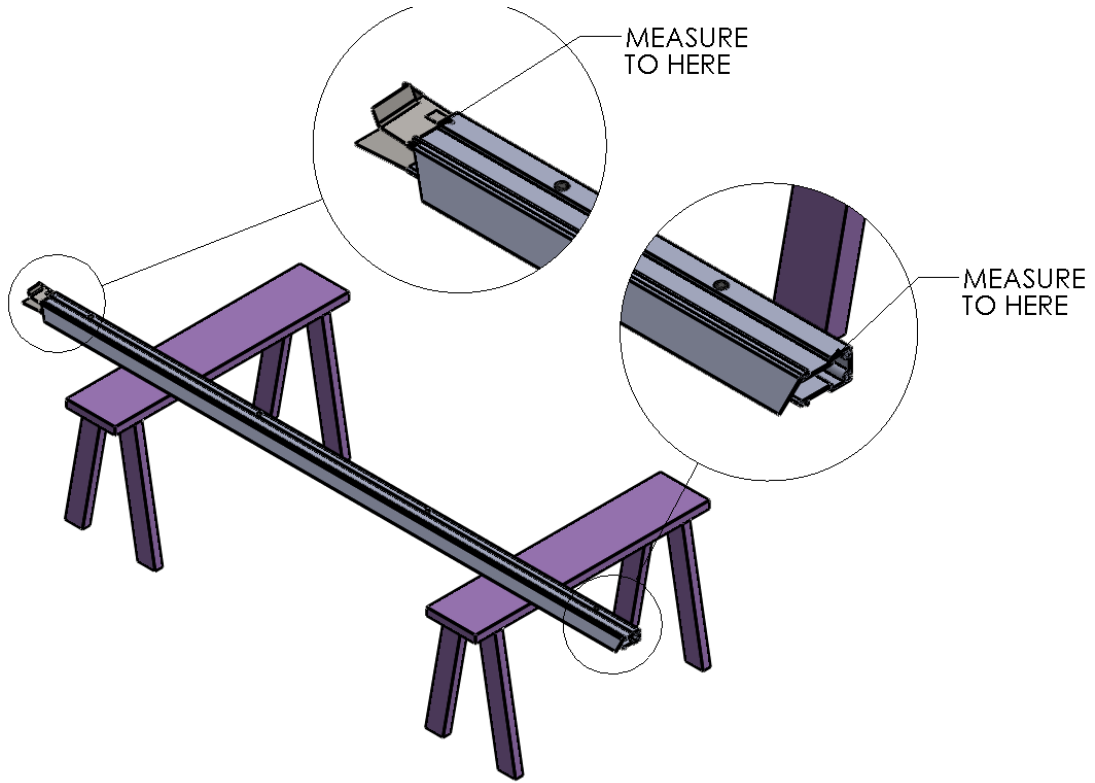
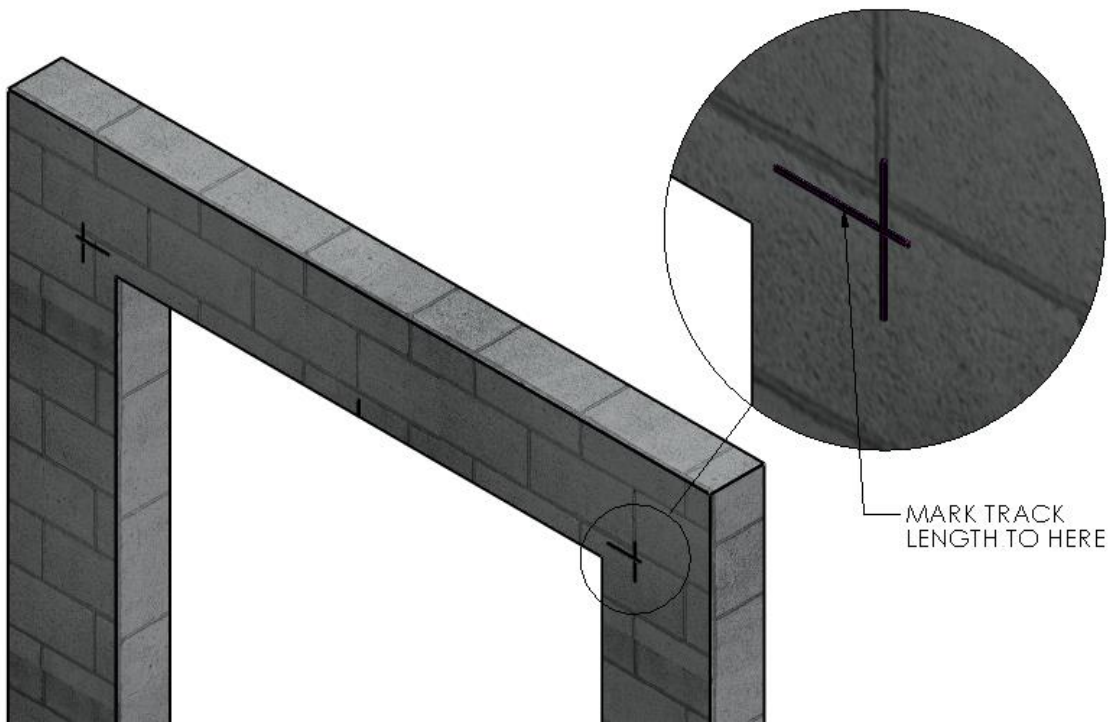

Figure 4 MEASURE TRACK HEIGHT
Figure 5 MARK TRACK HEIGHT
5. Set one of the Vertical Track Assemblies on your work surface and measure the length of the vinyl Track only. ADD 7-1/4" to this number and take note. This is the height dimension needed to mark the location of the top edge of the Header Mounting Brackets. With this number, add a horizontal line on each side of the opening that intersects the previously drawn vertical line marking the overall width of the roll assembly. (Note: This mark should be 7-1/2" above the opening height.) (Figure 4 MEASURE TRACK HEIGHT) (Figure 5 MARK TRACK HEIGHT)
6. Using two (2) people, and two ladders at minimum, raise the Header Assembly to fit between, and below, your markings on the wall. Trace the insides of its oval mounting slots onto the wall mount surface (a Sharpe permanent marker works great for this). Be sure that its top edge is on the height line, and that the outer edge is on your vertical overall width line.
7. Predrill through the centers of the traced locations for the mounting hardware, three (3) pilot holes on each side.